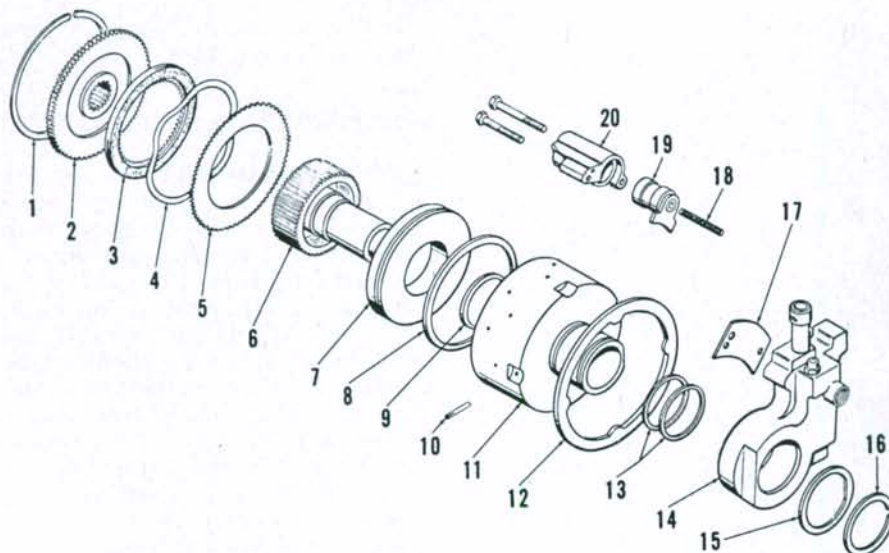

Fig. 248—Exploded view of Ipto multiple disc clutch assembly used on early production tractors.
**207. OVERHAUL.** Refer to Fig. 248 for an exploded view of early style clutch unit. To disassemble clutch, push retainer plate (2) inward and remove retaining ring (1). Remove clutch discs (3), wave springs (4), separator plates (5) and drive hub (6). Remove piston (7) and seals (8 and 9) from clutch housing (11).
When assembling clutch unit, lubricate piston seal rings prior to installing piston in clutch housing. Several pieces of 5 mm (3/16 inch) diameter rod (T—Fig. 251) may be placed inside the housing as shown to serve as alignment guides for piston installation. Install drive hub (6—Fig. 248).
Beginning with an externally splined separator plate (5—Fig. 248), alternately install seven separator plates, six wave springs (4) and six friction discs (3). Push down on the last plate to compress the wave springs and insert two small rods into clutch housing bleed holes as shown in Fig. 252 to hold plates in place. Install remaining wave spring and friction disc, then install retainer plate (2—Fig. 248) and retaining ring (1). The restraining rods can be removed at this time.